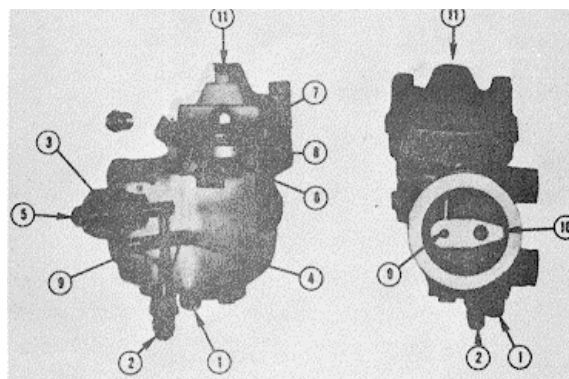

Fig 522, F5244 Aneroid cutaway
1. Fuel from outlet side of fuel pump enters aneroid and goes through starting check valve area (5, Fig. 522). Aneroid AR40600 series does not have a starting check valve but must have a fuel check valve in supply line.
2. The starting check valve (3) prevents aneroid from bypassing fuel at engine cranking speeds. For speeds above cranking, fuel pressure forces the check valve open, allowing fuel to flow to valve port (4) of shaft (9)
3. Shaft (9) and its bore form the bypass valve. This shaft and bore allow passage or restriction of fuel flow in a similar manner as throttle shaft and sleeve in PT fuel pump
5. The shaft and sleeve are bypassing fuel when arm (10) of lever is resting against adjusting screw (1). The amount of fuel bypassed is adjusted by this screw, which protrudes from bottom of aneroid.
6. The lever arm connected to piston (8) by actuating shaft (6), rotates shaft, closing valve port. The lever is rotated by action of air intake manifold pressure (11) against piston and diaphragm (7), moving actuating shaft downward against resisting spring force. Fig. 522.